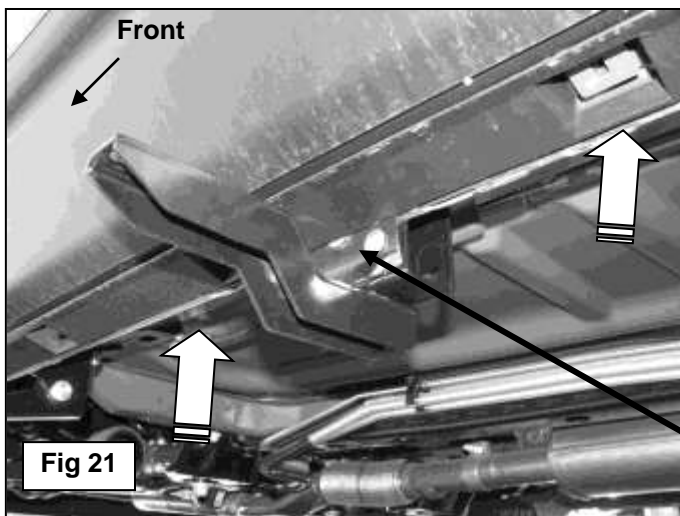

Fig 21
17. Reinstall the center Bracket assembly, **(Figures 20 & 21)**. Line up the outer Clamp Plate with the drilled hole. Pull the plastic cover back a little, **(Figure 21)**, and insert (1) 8mm Carriage Bolt through the center hole in the Outer Clamp Plate, the drilled hole and into the Bracket. **IMPORTANT:** Release the factory plastic clips in the bottom of the plastic rocker cover for easier installation of the 8mm Carriage Bolt, **(Figure 21)**. Secure the Bracket to the center bolt with (1) 8mm Flat Washer and (1) 8mm Nylon Lock Nut, **(Figures 22 & 23)**.